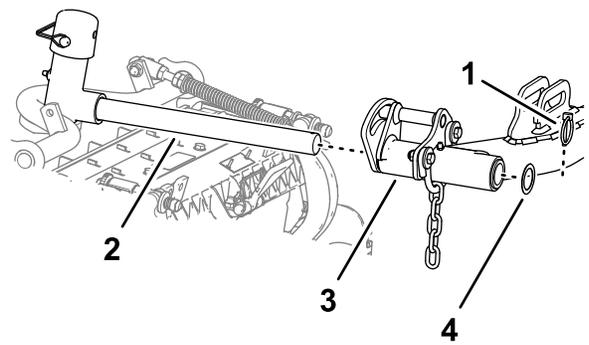

Figure 30
- Slide a cutting unit under the lift arm (Figure 30).